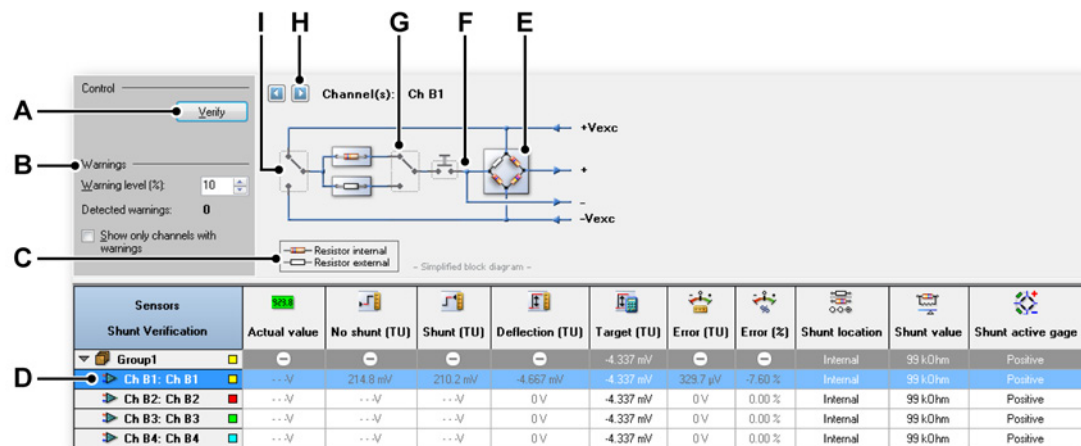

Figure 12.33: Shunt Verification dialog
- 8 Select between internal or external shunt usage: in the **Internal shunt** column enable internal to use an **internal** shunt or clear the option to select an **external** resistor. Make the appropriate value setting as described earlier. You can also click on the switch in the diagram (**G** in Figure 12.33).
- 9 Select the bridge arm: use the **Active gage** column to select between **Positive** (A-C) or **Negative** (C-D). You can also click on the switch in the diagram (**I** in Figure 12.33).
- 5 Enter a value as **Target** : the target value is the result of the bridge value, excitation value and shunt value. Tables exist for commonly used values. As an example refer to Figure 12.28. In Figure 12.33 on page 332 the value is used that corresponds to a 350 Ω bridge, 20 k Ω shunt - therefore a 4.337 mV deflection per volt excitation - and 1 volt excitation.